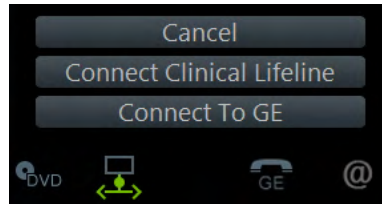

Figure 7-12 Connect Clinical Lifeline
3. Select *Connect Clinical Lifeline* (see: Figure 7-12 below). This activates “Disruptive Mode” and “VCO” for the application OLC to quickly assist the customer.